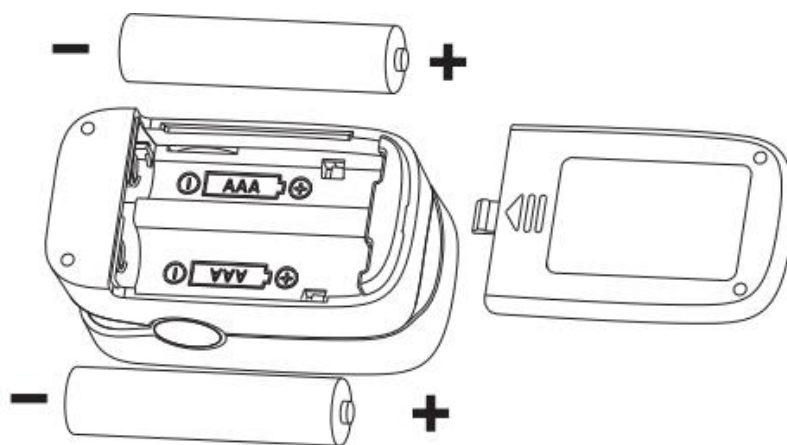

Figure 2 Battery Installation
- A. Put the two AAA batteries into battery compartment in correct polarities (Figure2).